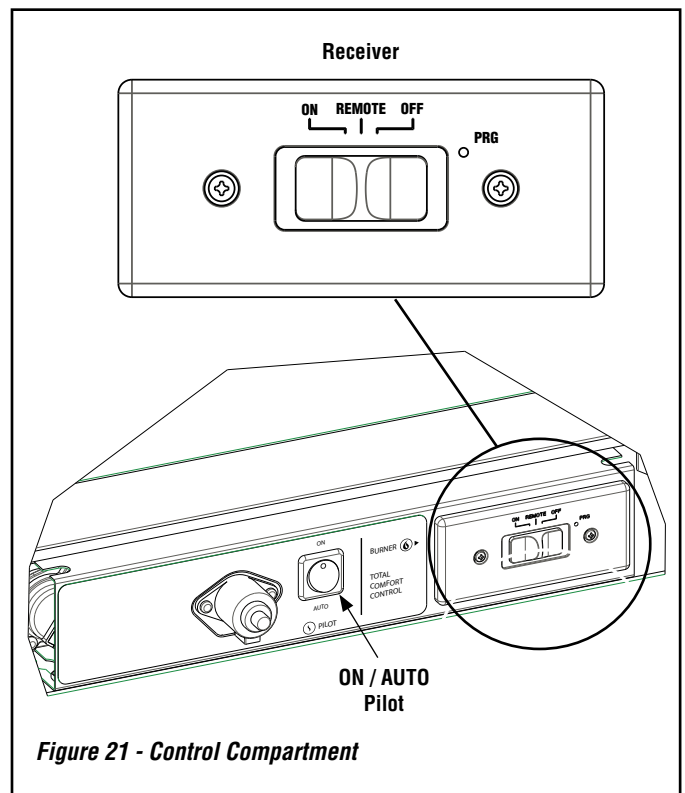

Figure 21 - Control Compartment
Place the 3 position slider switch in the "Remote" position (see *Figure 21*). Using the end of a paper clip, or other similar object, insert the end of the paper clip into the hole marked "PRG" on the Receiver front cover. The Receiver will "beep" three (3) times to indicate that it is ready to synchronize with the Remote (transmitter).
NOTE: The blower can be controlled only by the remote. Turning the appliance off with the unit mounted three position slider switch (**Figure 21**) will **NOT** turn off the blower. To turn off the blower, use the remote in lieu of or prior to shutting the appliance off at the three position slider switch (**Figure 21**).